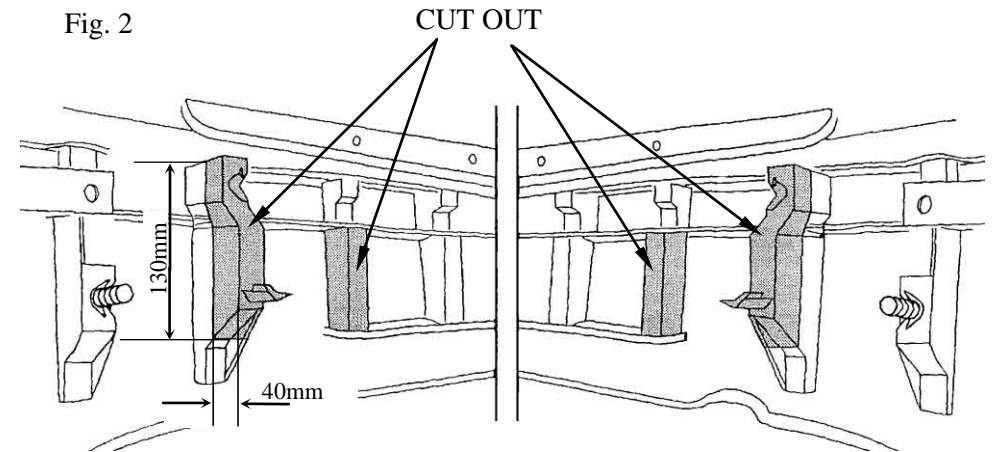

Fig. 2
8. According to figure 2 cut out elements of the bumper.
10. Fix body of the automat and the socket plate (pos. 3) using bolts M12x25mm from accessories. Place tow-ball according to supplied instruction.